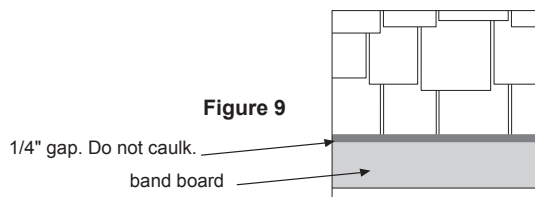

Figure 9
- 2) Trim the first panel from the end abutting trim (the left side in figures 8 & 10) to hit the furthest stud. When installing over a band board, trim the bottom of the panel to create a straight edge, leave 1/4" gap between bottom of siding and flashing (fig. 9).